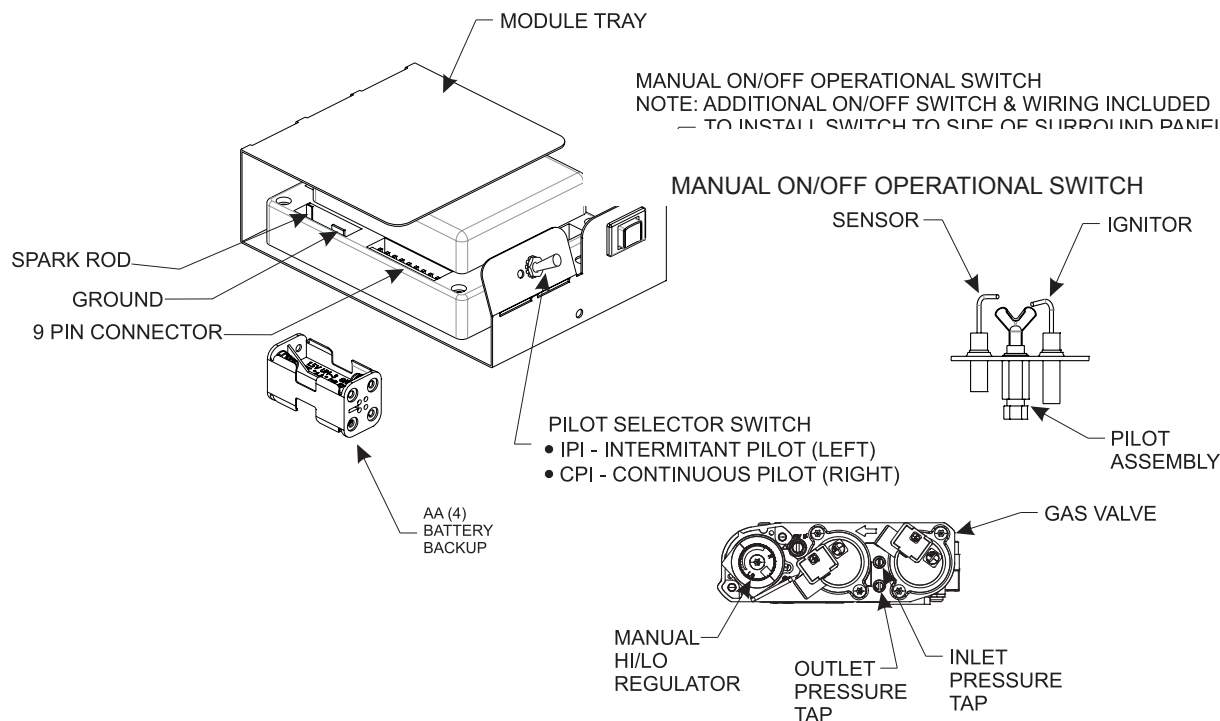

Figure 73
NOTICE: A small toggle switch is located on the front of the module tray that is used to switch from IPI (left) to the CPI (right). See Figure 73.
3. The gas valve has inlet and outlet pressure taps as shown in Figure 73. Refer to page 13 for gas pressure requirements.
NOTICE: The gas control has a manual HI/LO flame adjustment knob (regulator) that allows you to increase or decrease the height of the burner flame. See Figure 73. Rotate the HI/LO knob counterclockwise to "HI" to increase the flame height, and clockwise to "LO" to decrease the flame height.
To connect the remote receiver to the fireplace, first disconnect the ON/OFF switch wires from the white and green wire connectors and connect the wires from the remote receiver to the green and white wire connectors. See Figure 73.